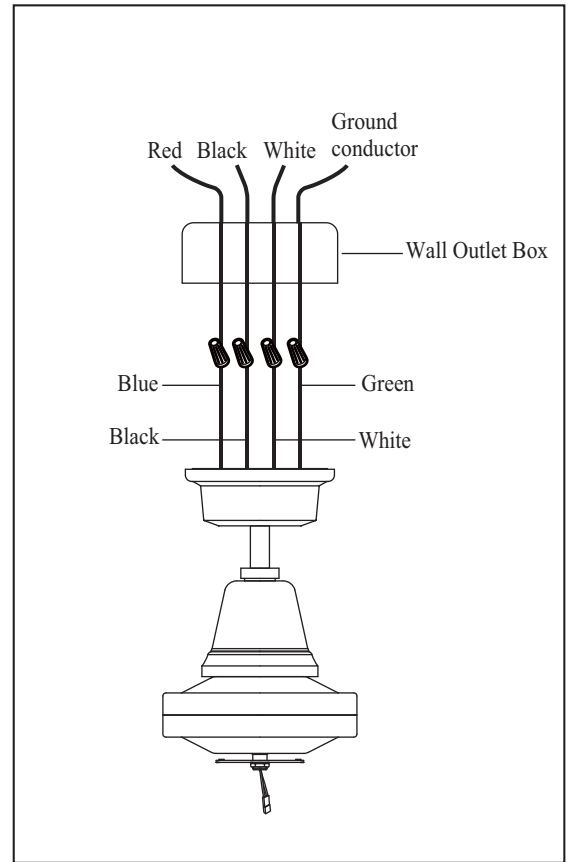

Figure 13
- b. Fan wire connection (see figure 13)